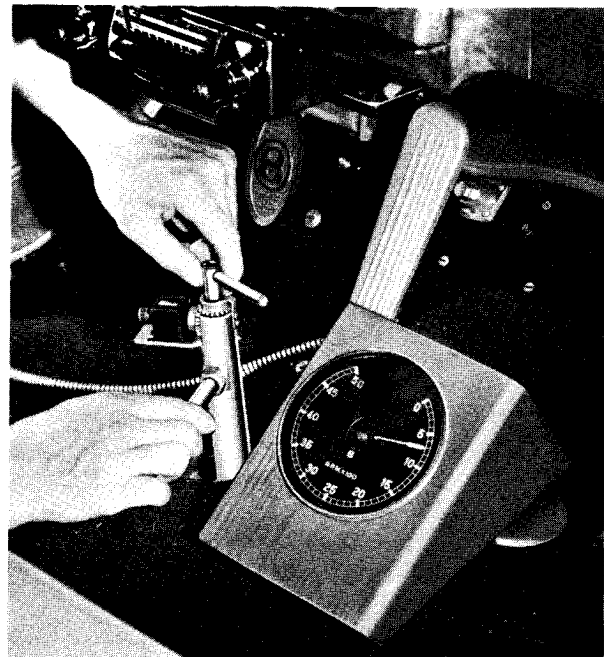

Fig. 7 Checking and adjusting bands externally
3. Position the band adjusting tool J.2681-A on the front band adjusting screw (fig. 7).
6. Carefully repeat items 4 and 5 to locate the exact point at which the drum stops spinning, then wait 30 seconds. If the engine speed increases slightly, tighten the adjuster one-tenth of a turn and wait a further 30 seconds. Repeat this procedure until engine speed remains constant at 700 r.p.m.